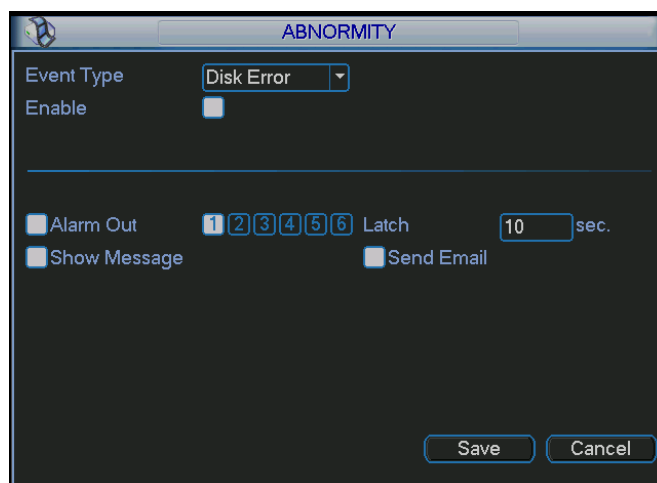

Figure 5-84
- Alarm set: Click alarm set button, the interface is shown as below. See Figure 5-84. (This interface is just like the abnormality setup). Please refer to chapter 5.7.2 for detailed information.